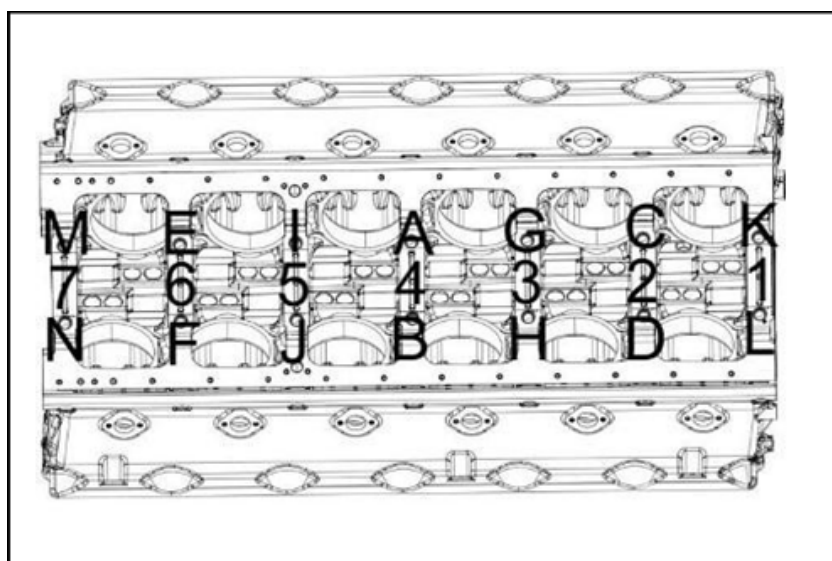

Figure 137.
9. Tighten the main bearing bolts in the following sequence (Figure 137):